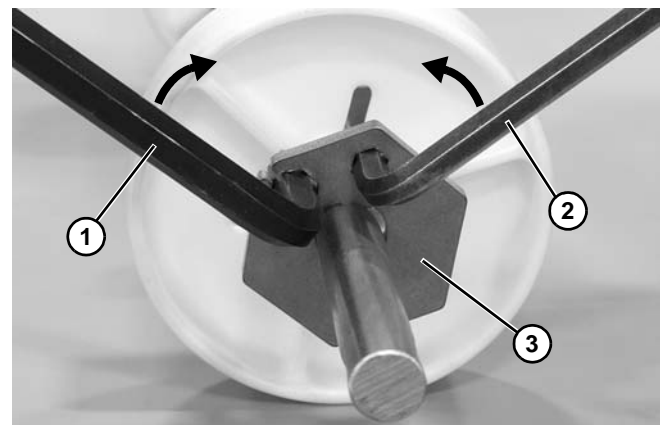

Figure 27
- a. Insert an 8 mm (Figure 27, item 1) and 6 mm (Figure 27, item 2) hex wrench into the retainer plate.
- b. Move wrenches toward each other to open the retainer plate (Figure 27, item 3) and install onto the shaft. Position retainer plate where needed.